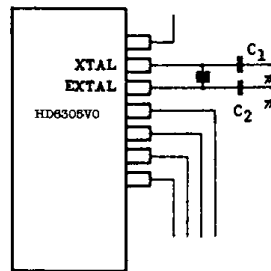
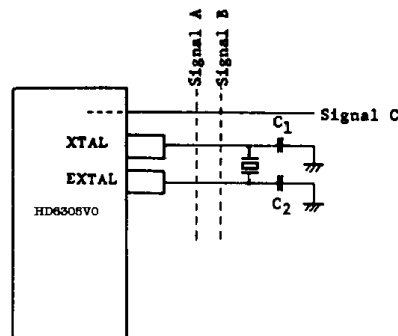

Figure 34 Design of Oscillation Circuit Board
Figure 35 Example of Circuit Causing Trouble in Oscillation
- Board design of situating signal lines or power supply lines near the oscillator circuit as shown in Fig. 35, should not be used because of trouble in oscillation by induction. The resistor between the XTAL and EXTAL, and pins close to them should be 10M Ω or more. The circuit in Fig. 34 is an example of good board design.